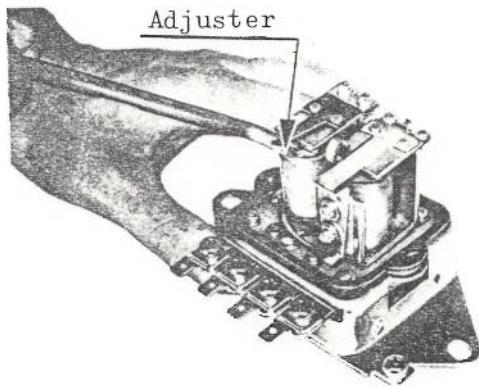

Fig. 10-17
- 7) If the non-load voltage is in excess of rated voltage of 14.5V, bring it down to rated level by bending the adjuster downward. (See Fig. 10-17)